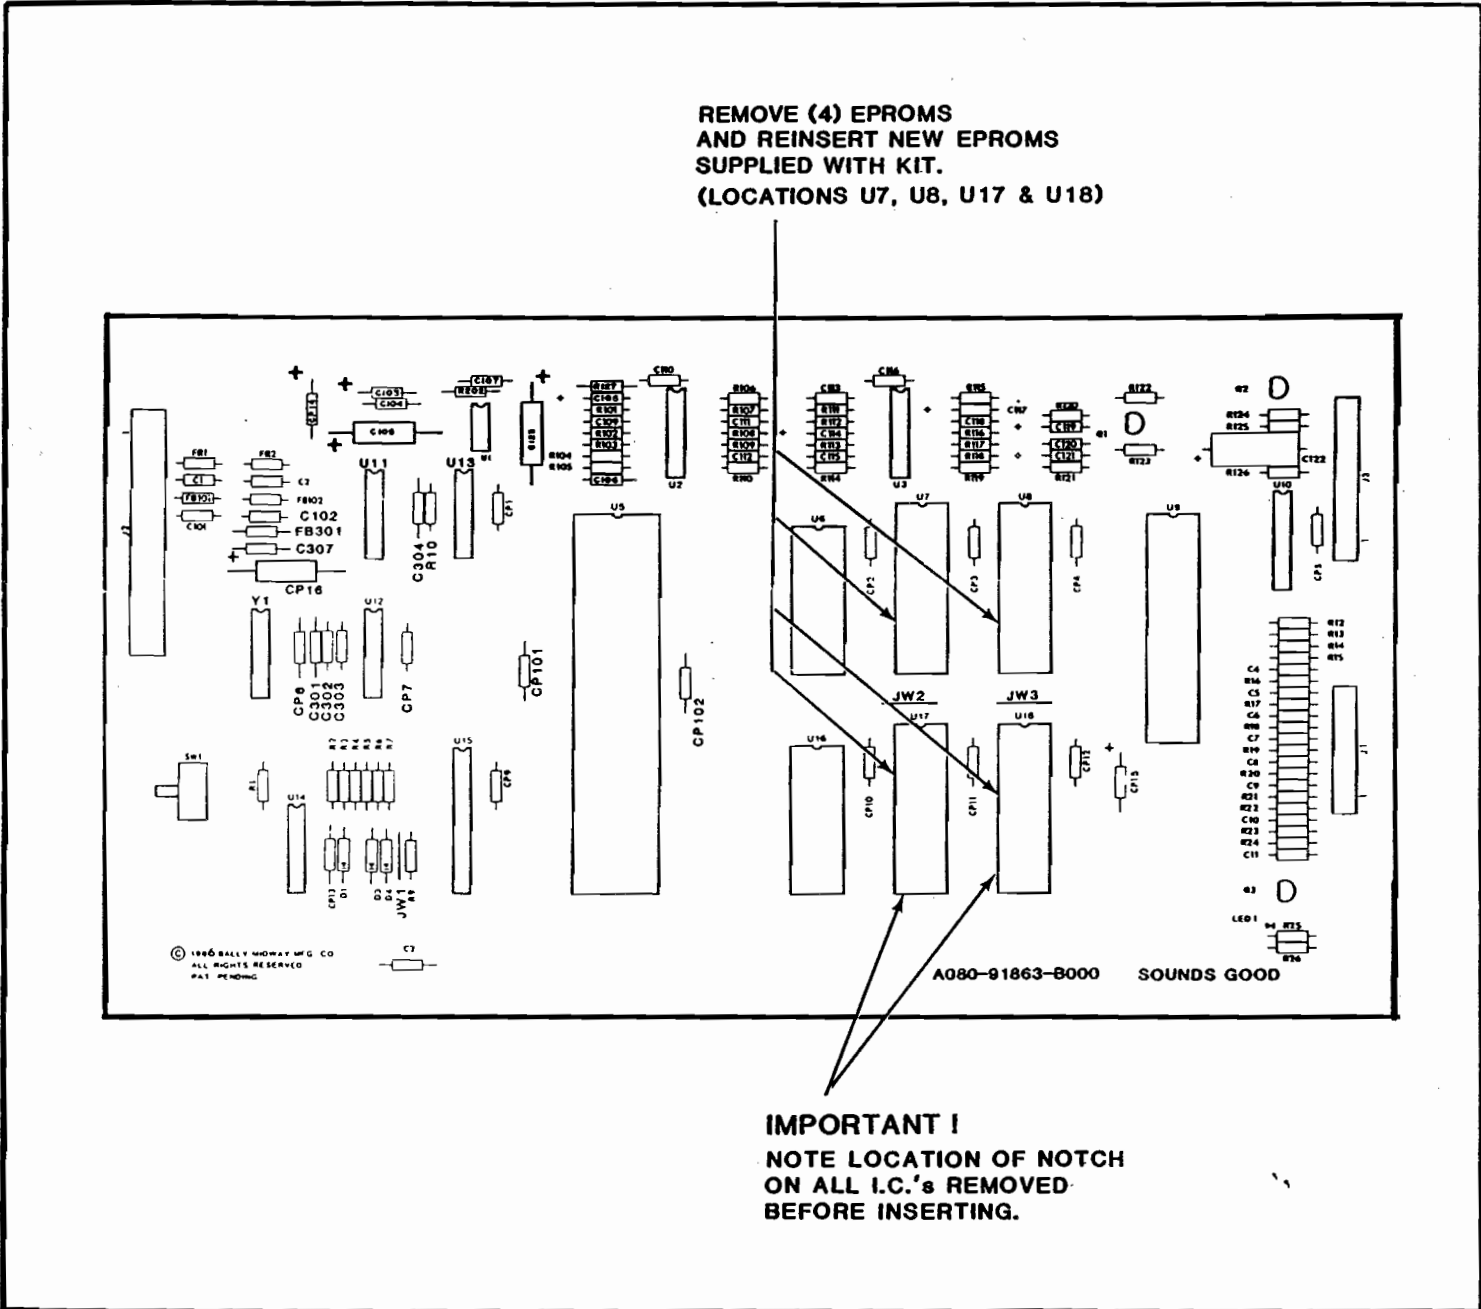

Figure 2
- Remove the four EPROMS located on the SOUNDS GOOD P.C. BOARD as shown in Figure 2 and discard them. Replace the removed EPROMS with the ones supplied in your conversion kit. They are installed as shown in Figure 2.